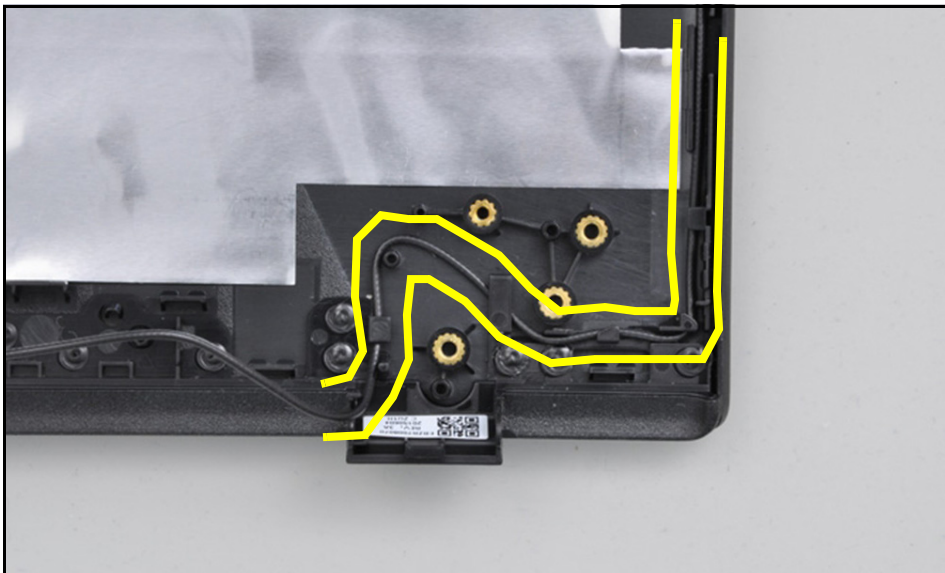

Figure 3-73. Replacing the WLAN Antenna
5. Route and secure the MAIN antenna carefully to the indicated portion of cable guides on the bottom right portion of the LCD cover (Figure 3-73).